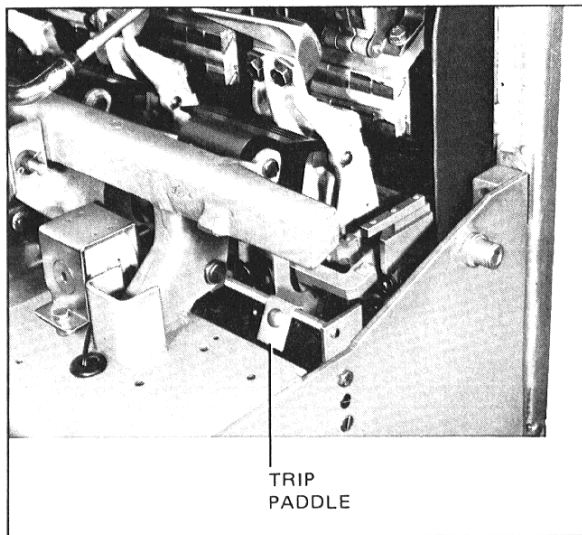

Fig. 4 Positioning of Actuator Trip Paddle DB-75/100
1. Position and assemble trip paddle on breaker trip bar using .25-20 x .75 carriage bolt, trip bar finger and elastic nut. Left edge of paddle should be 3.12" from side of platform. See Figs. 4 and 5.